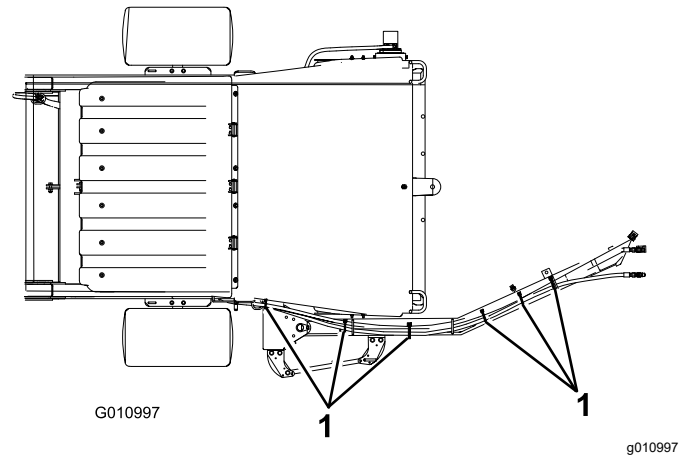
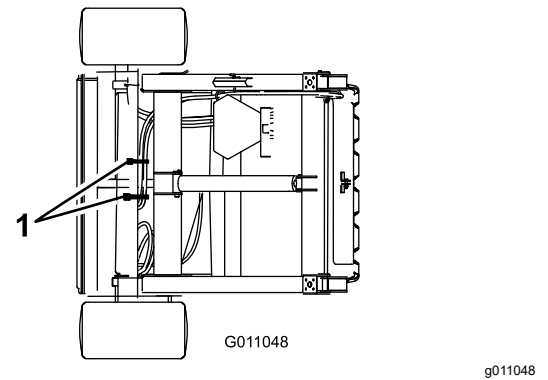

Figure 12
Figure 13
2. Secure the hydraulic hoses and wire harness as shown in Figure 12 and Figure 13.